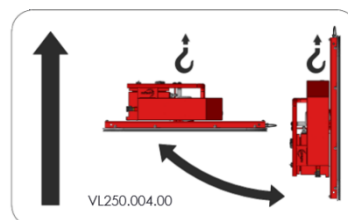
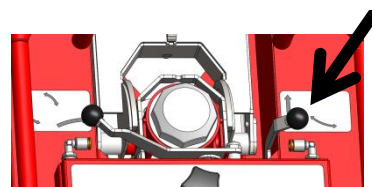

Figure: 11
Figure: 12
- Operate the tilt toggle (see figure 12) to the right of the lifting eye, labelled with the tilt sticker (see figure 11).